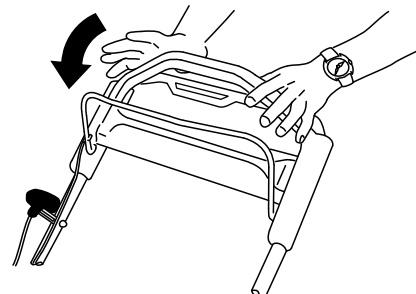

Figure 22
Release the blade-control bar (Figure 22).
- If the rear-discharge plug is not installed, grip it by the handle, raise the rear deflector, and insert it into the rear-discharge chute until the latch locks into place; refer to Figure 22.